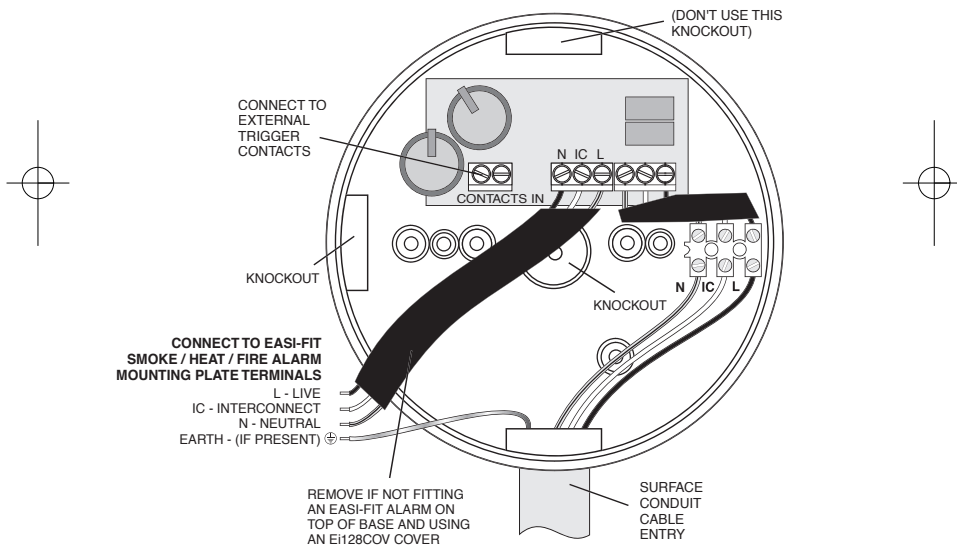
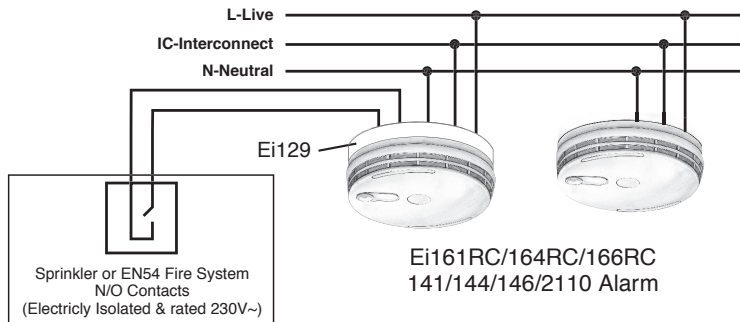

Figure 1- Ei129 Model
Figure 2
2.1.3 Screw the Ei129 Module to the ceiling after first removing the required knockout and bring the house wires through it (see Figure 1). If the contact knockout is being used, seal around the wires with silicone or similar to prevent air draughts affecting the smoke or heat entering the alarm.
2.1.4 Connect the wires from the alarms (L – Live, N – Neutral, and IC – Interconnect) to the terminal block on the Ei129 Module as shown in Figure 1. Make the wiring connections as shown in Figure 2.
2.2.2 Connect the wires from the alarms (L – Live, N – Neutral, and IC – Interconnect) to the terminal block on the Ei129 Module as shown in Figure 1. Then connect the two wires from the external N/O contacts to the “CONTACTS IN “ terminals.
2.2.3 Important: Now remove the three short sleeved wires from the central terminal block on the circuit board on the Ei129 as they are now not needed (see figure 1). This is essential to prevent them shorting and damaging the alarms or blowing fuses.